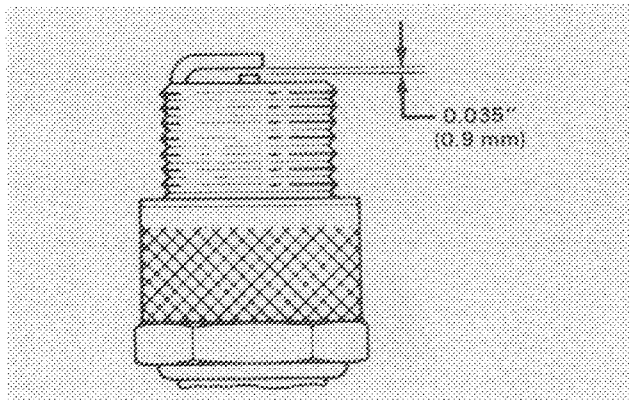

Figure 18
4. Set air gap between center and side of electrodes at 0.035 of an inch (0.9 mm) (Fig. 18). Install correctly gapped spark plug w/gasket seal, and tighten plug to 18 ft-lb (24.4 Nm). If torque wrench is not used, tighten plug firmly.